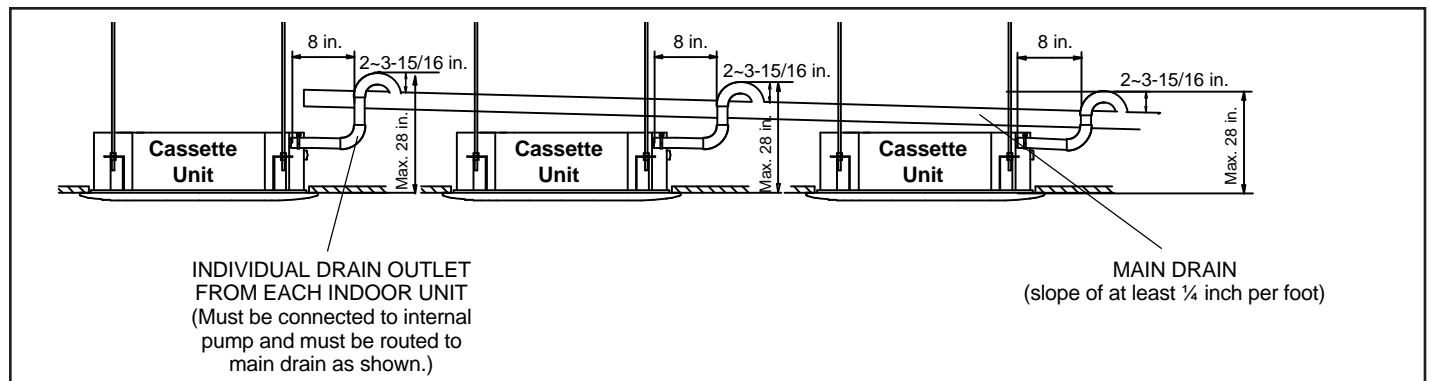

Figure 7. Using a Main Drain to Serve Multiple Indoor Units
4. See Figure 7 for applications including multiple units using the internal pump to provide lift into a single, correctly sized main drain. In this case, ensure that the main drain line is properly sloped (no less than 1/4 inch per foot) and that each individual drain is connected to the main drain exactly as shown.